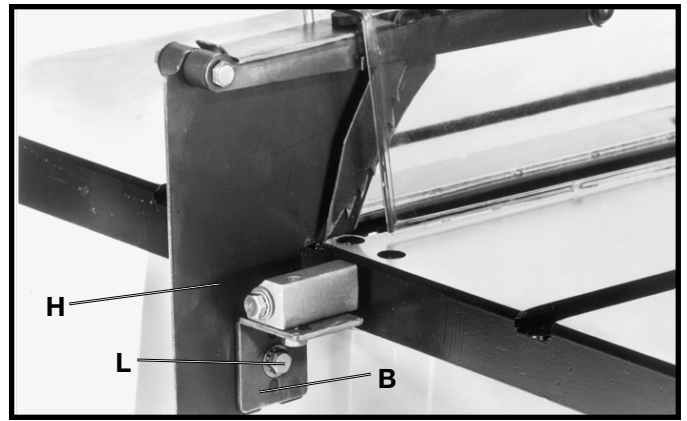

Fig. 14
7. Assemble splitter (H) Fig. 14, to splitter support bracket (B) as shown using M6x1x20mm hex head screw (L), 1/4" external tooth washer, and 1/4" flat washer.